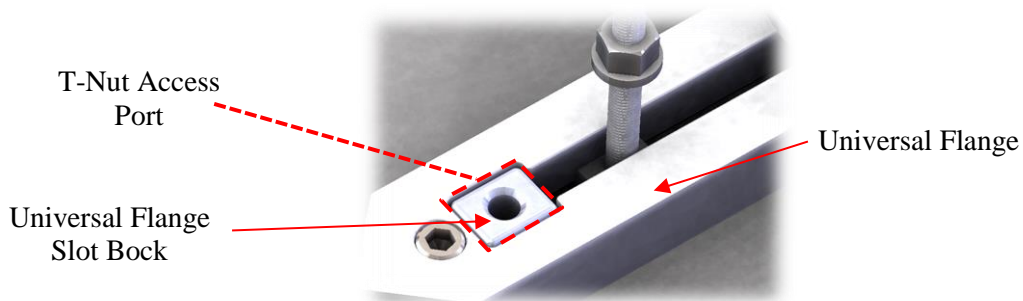

Figure 7: ENG-659001 Rev. F T-Nut Slot
- b. On the ENG-659001 Rev. F test stand the t-nut assemblies are installed through the top of the test stand flange. See Figure 7.
- a. For the ENG-659001 Rev. F test stand, install the Universal Flange Slot Blocks. See Figure 7.